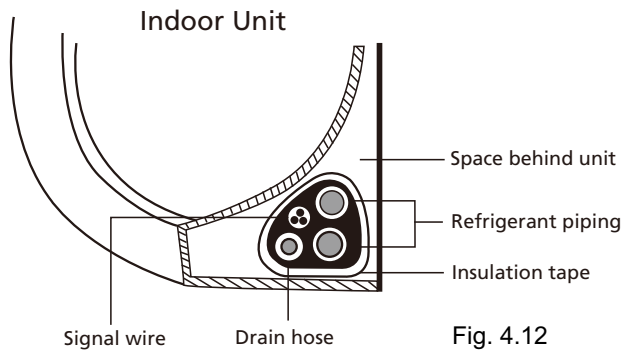

Fig. 4.12
1. Bundle the drain hose, refrigerant pipes, and signal cable according to **Fig. 4.12**.
3. Using insulation tape, wrap the signal wire, refrigerant pipes, and drain hose tightly together. Double-check that all items are bundled in accordance with **Fig. 4.12**.